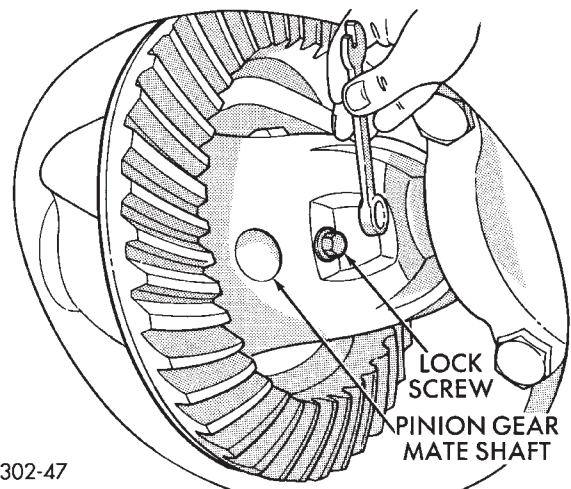
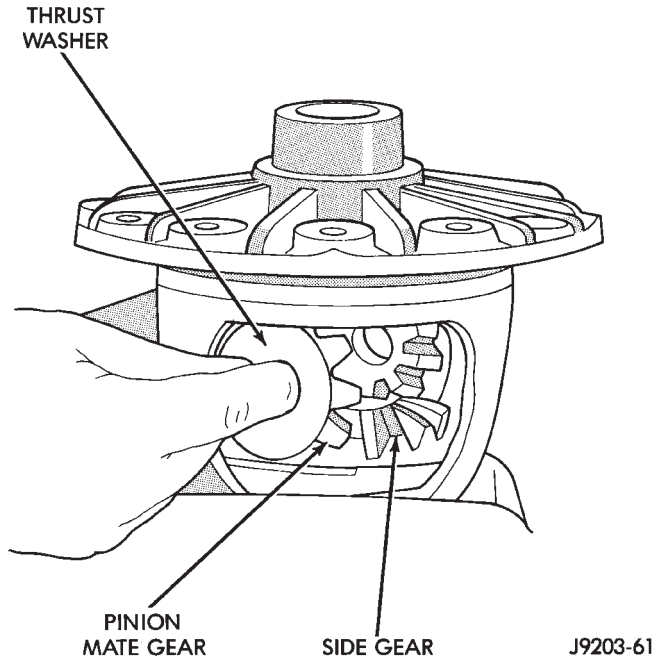

Fig. 42 Pinion Gear Mate Shaft Lock Screw
Fig. 43 Pinion Mate Gear Removal
(1) Remove pinion gear mate shaft lock screw (Fig. 42).
(2) Remove pinion gear mate shaft.
(3) Rotate the differential side gears and remove the pinion mate gears and thrust washers (Fig. 43).